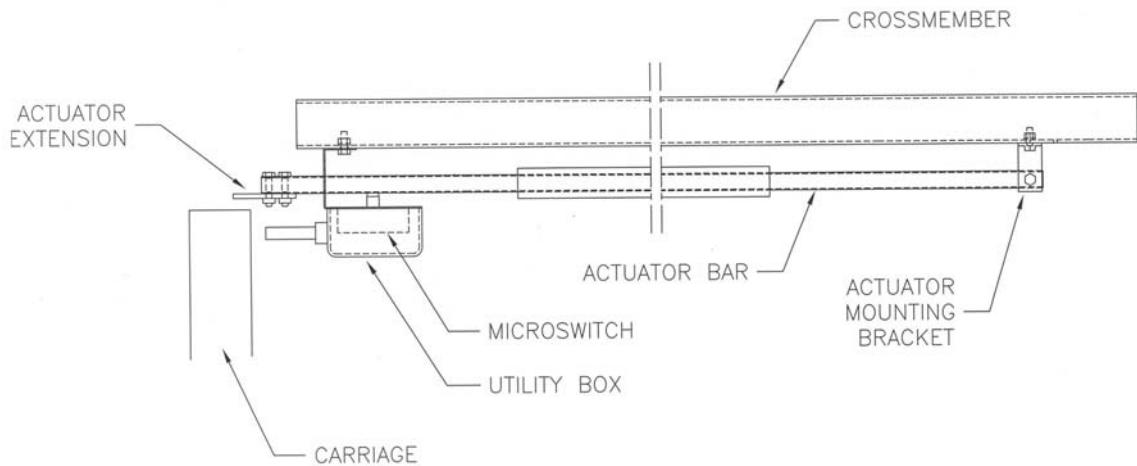

Figure 4A – Safety Shut-Off Bar Installation – 12ft.
2. Attach the Actuator Bar to the Actuator Mounting Bracket using one 1/4" NC x 1 1/2" lg. hex head bolt (6-0205), one 1/4" ID lockwasher (6-0056), and one 1/4" NC hex nut (6-0032). For 12ft. installations orient the actuator bar so that the single hole is used to mount the actuator bar to the bracket **Figure 4A**. Attach the actuator extension to the actuator bar with two 1/4" NC x 1 1/4' LG. Hex head bolts (6-0027), 1/4" lockwashers (6-0056) and 1/4" hex nuts (6-0032).
3. Slide Safety Shut-Off Microswitch Assembly over the open end of actuator bar and bolt the assembly to the crossmember using two (2) 1/4" NC x 3/4" lg. hex head bolts (6-0178), two (2) 1/4" ID lockwashers (6-0056), and two (2) 1/4" NC hex nut (6-0032).